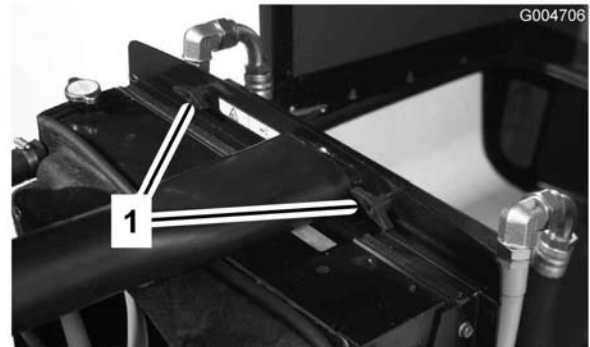

Figure 62
2. Remove the knobs (Figure 62) securing the oil cooler to the frame.